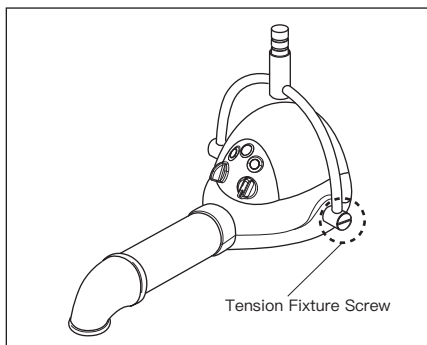

Fig. 7
7. The dryer windpipe fixture angle could be adjusted by moving the windpipe up and down easily. After long time operation, the joint between the dryer head and hanging ear may go loose. When finding the tension screws on both sides get loose, turning the slot on it clockwise could tighten the screws. (See Fig.7) .